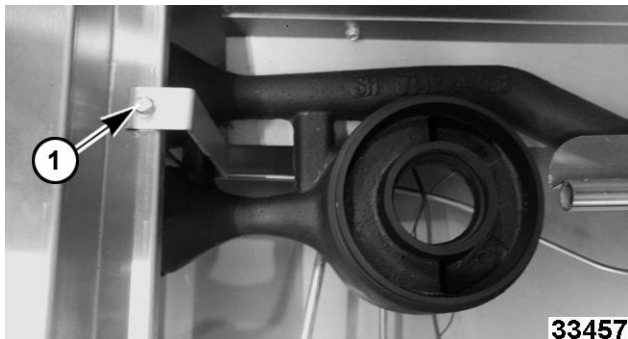

Fig. 27
4. Remove burner retainer bracket (1, Fig. 27).